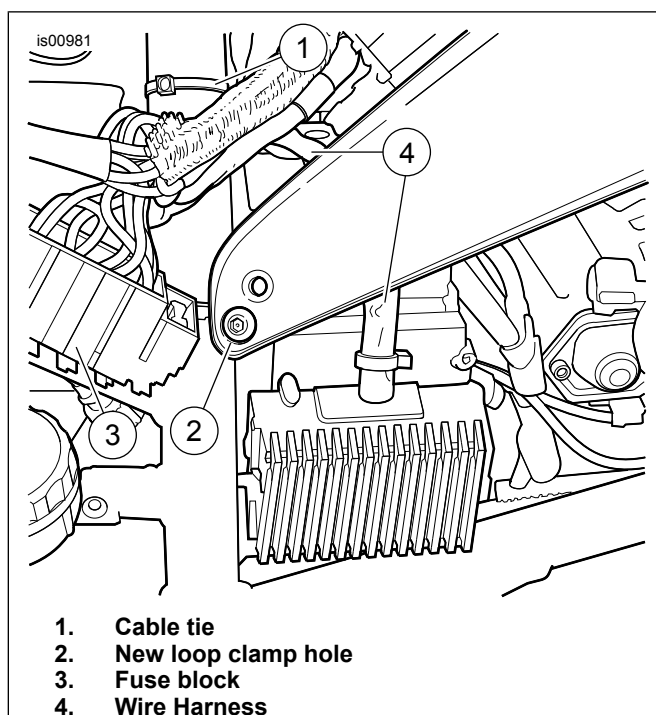

Figure 4. Voltage Regulator Wire Harness Routing
7. See Figure 4. Route voltage regulator wire harness (4) over top rear of battery and cable tie (1) to right side frame tube with new cable tie provided in kit.